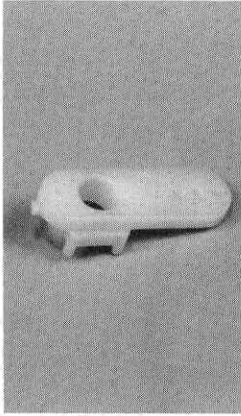

Fig. 20
- Fig. 20** Locate the servo saver arm...